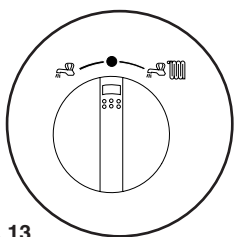

Fig. 13
1. **For short periods:** Turn the selector switch to the OFF position (Fig. 13).
2. **For long periods:** Turn off the selector switch (Fig. 13), electricity and gas supplies.